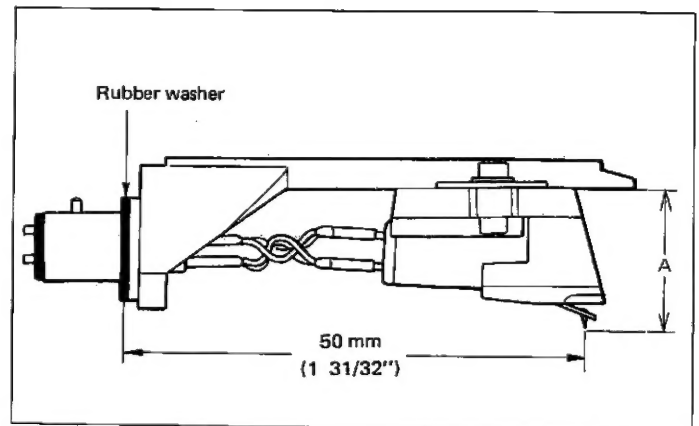

Figure 7
- \* Any cartridge of which the dimension "A" shown in figure 7 is greater than 19 mm, cannot be applied to this set.